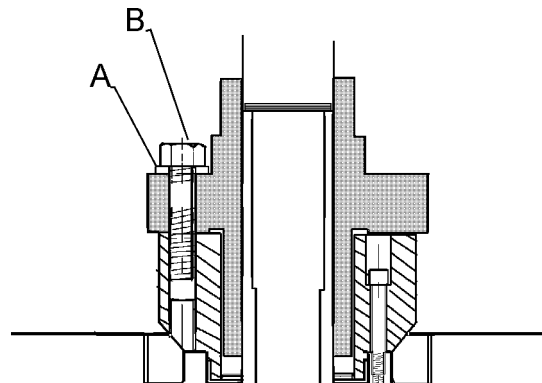

Figure 55 - Removal of Wet End
3. Remove the impeller retainer nut and O-ring; then loosen the seal set screws. (Figure 55, item A).